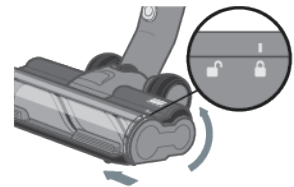

Figure 20
7. Rotate the Roller Brush Assembly until it locks into place, so it's secure. (Figure 20)